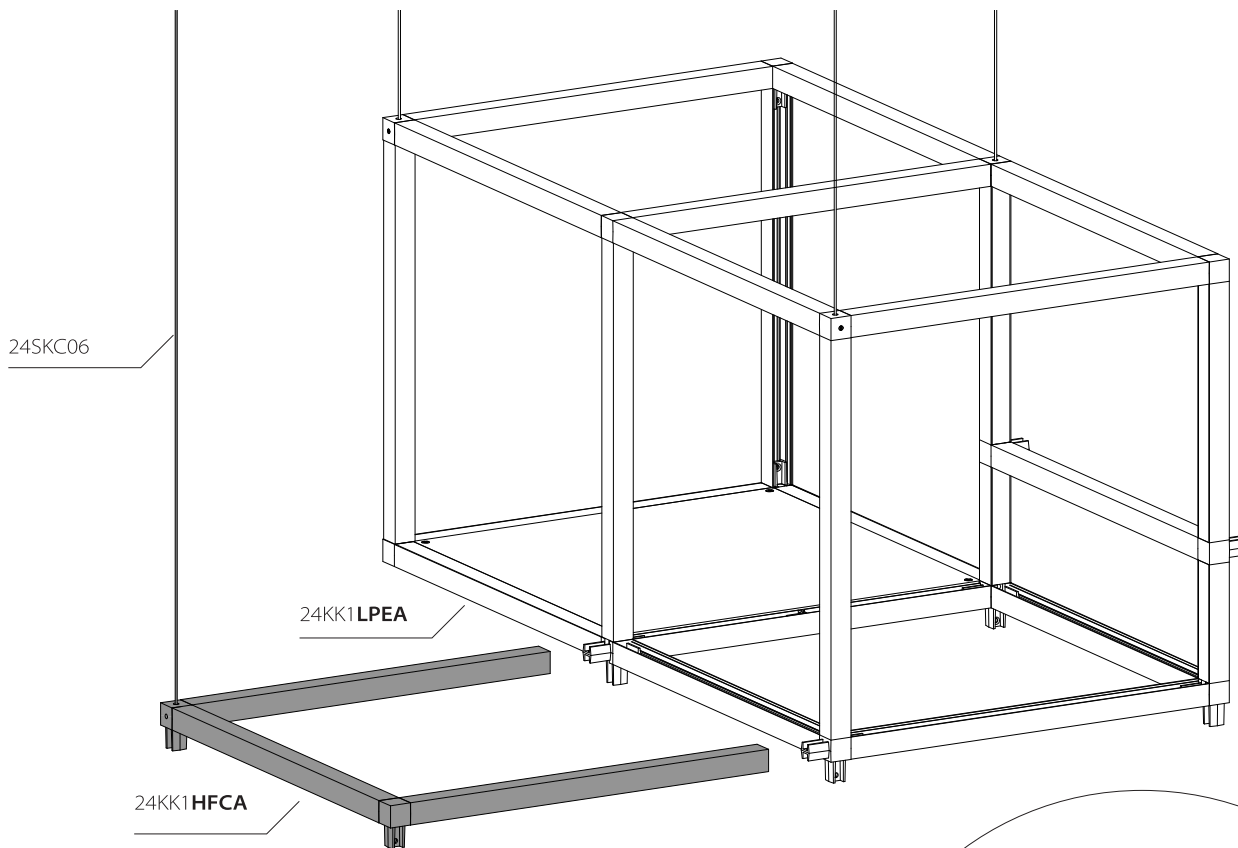

Fig. 7a
- 16a. Install 24KK1HFCA to 24KK1LPEA assembly as shown in Fig. 7a. Install 24SKC06 to hanging corner tighten set screw with included Slotted Screwdriver.